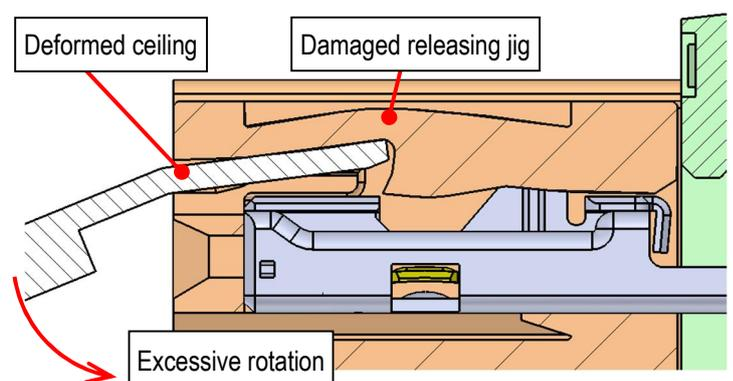

Fig36. Deformed ceiling, Damaged releasing jig
- ② Do not continue applying force once the lance has reached the ceiling, or the ceiling will be deformed or releasing jig may be damaged by excessive force. Take sufficient care when handling. (see Fig.36)
- ③ If there is any damage or deformation on the terminal or the housing, do not use the damaged item.